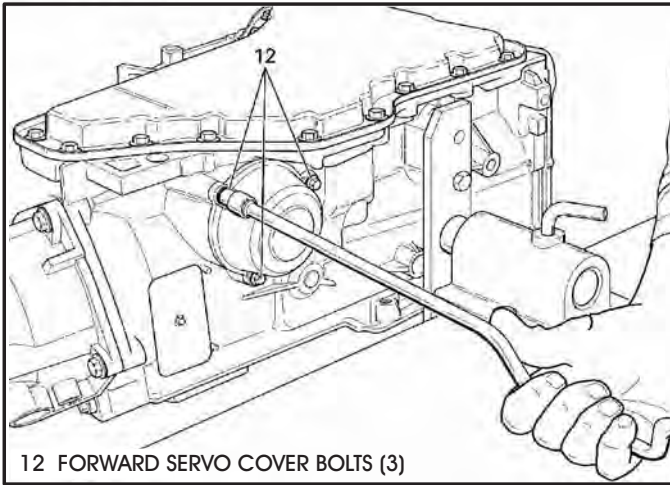

Figure 40
14. Using an 8mm socket attached to the speed handle, loosen the forward servo cover bolts, as shown in Figure 40.